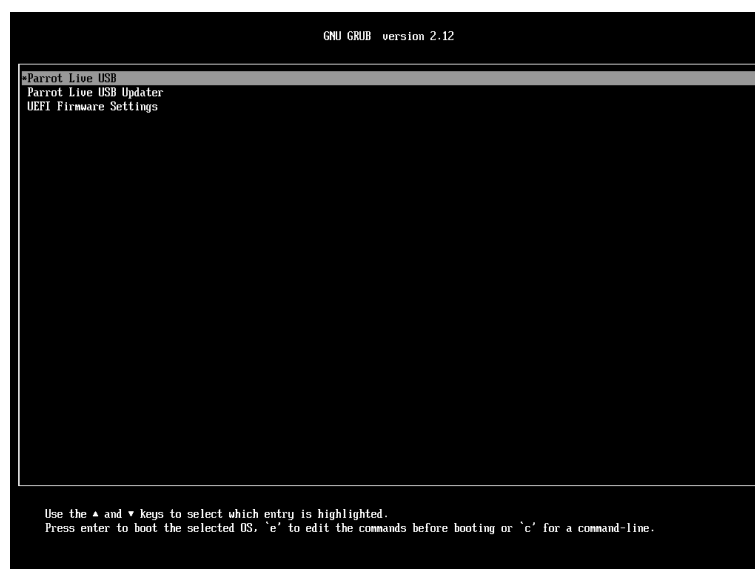

Figure 20: Simulator & FlightCharts Live USB key GNU GRUB menu
1. Use the **Up/Down Arrow** keys to highlight **Parrot Live USB updater**, seen in *Figure 20*.